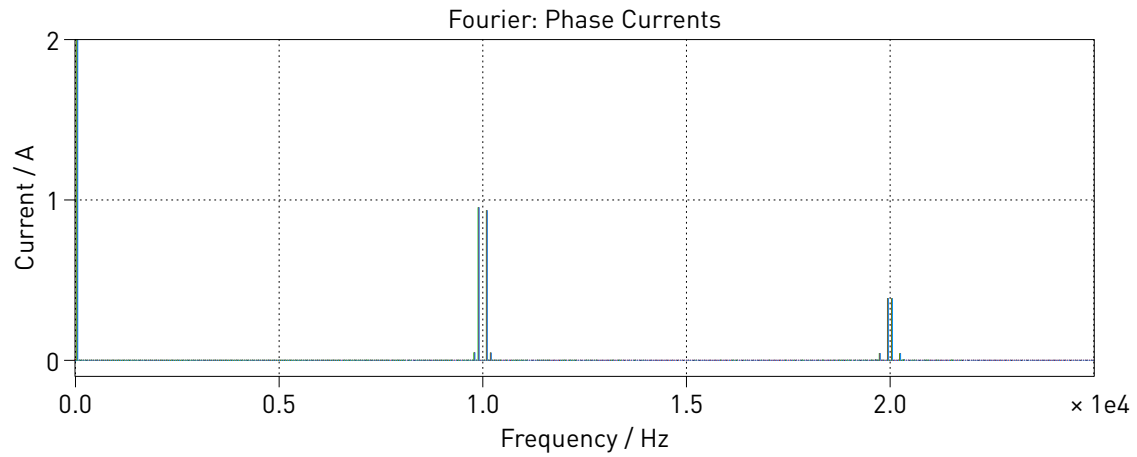

Fig. 2: Zoomed in Fourier spectrum using Sinusoidal PWM controller
- To match Fig. 2, set the **Set base frequency**: to the fundamental frequency (50 Hz), and specify 500 for the Number of Fourier Coefficients, **N**. These settings are configured so the Fourier spectrum results show the harmonics up to 25 kHz, or 2.5 times the switching frequency of 10 kHz for Sine PWM and SV PWM.